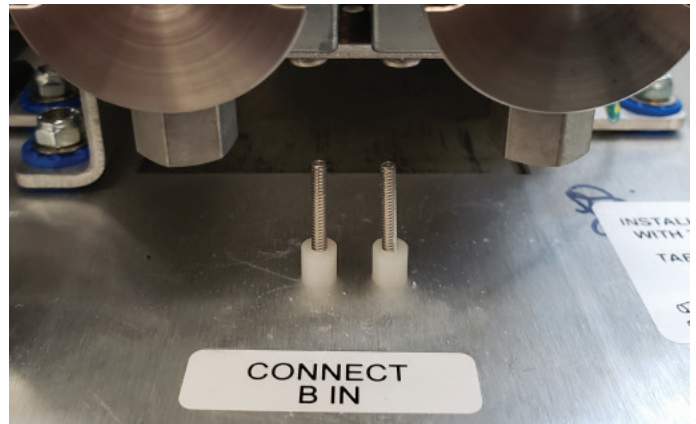

Figure 15: Y-connector and tubing removed
3. Remove the Y-connectors and associated tubing from the replacement pump assembly (Figure 15)